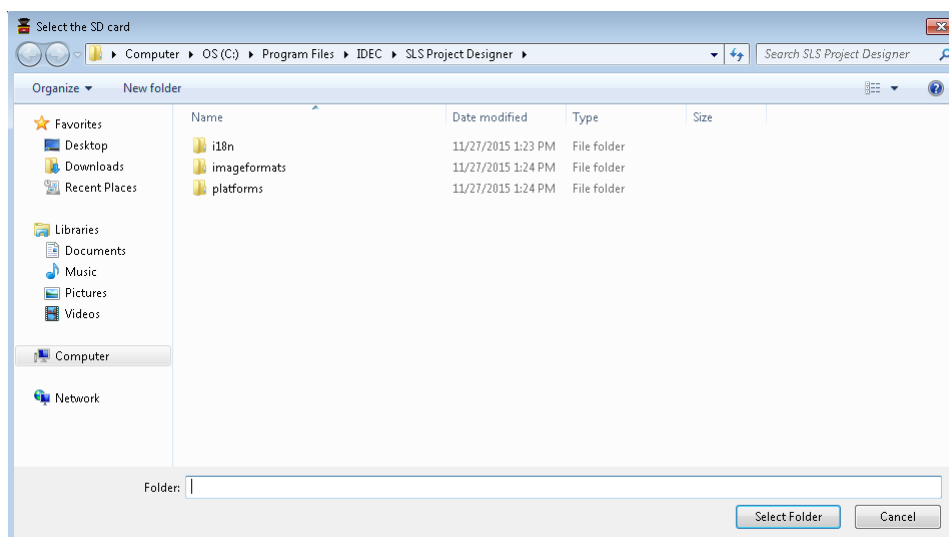

Figure 7-61 SD Card selection screen
- f) Verify that SD card is inserted into the PC slot and click “Save” button. Save dialog box as shown in Figure 7-61 will appear.